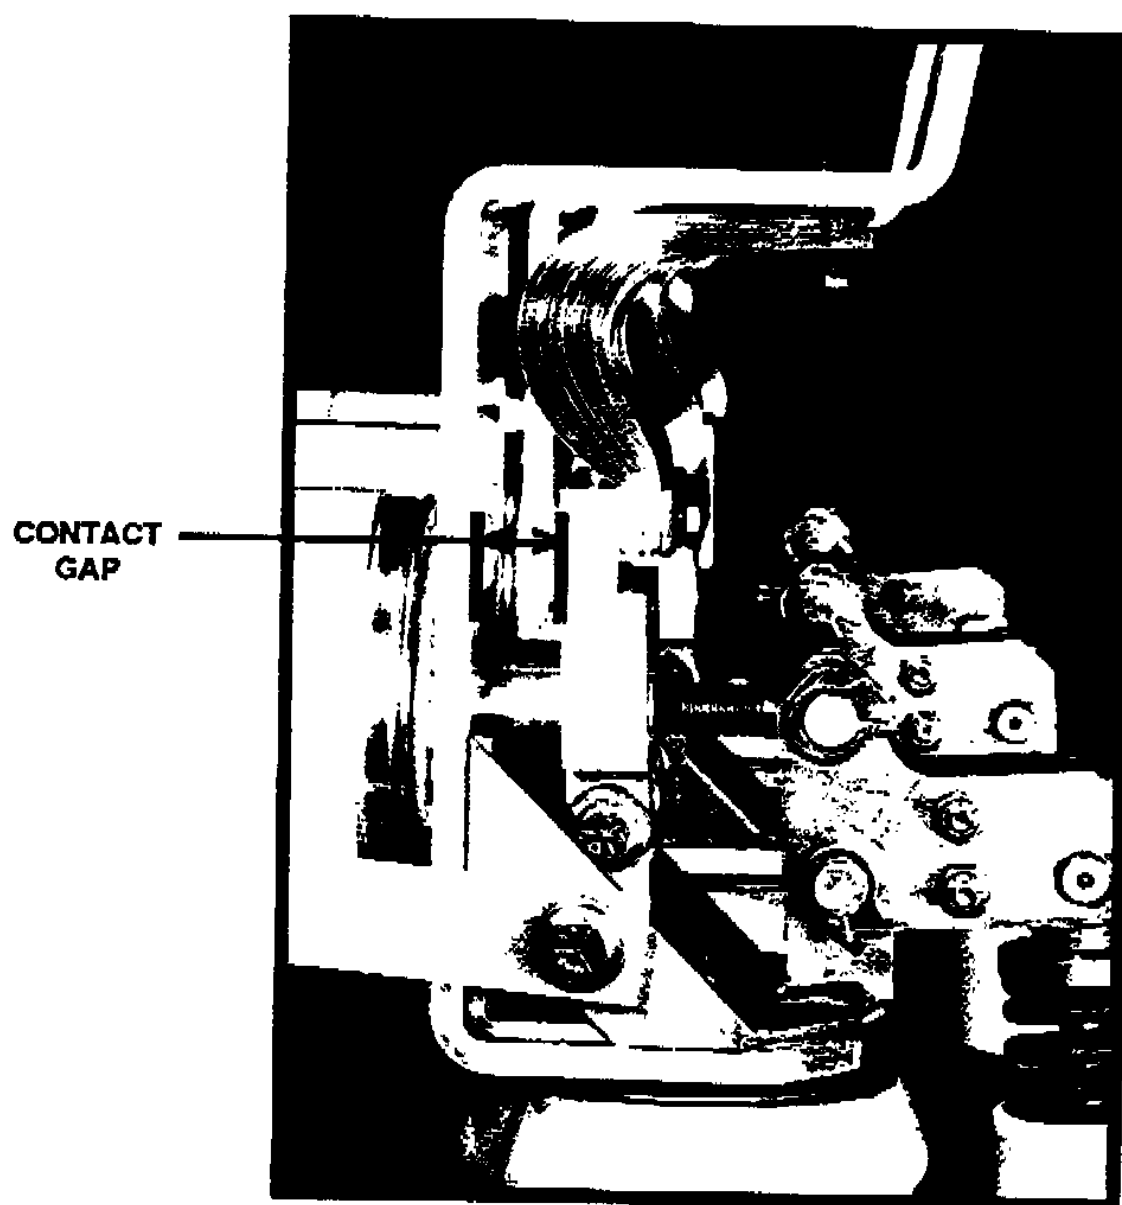

Figure 3 - Contact Gap
3. Contact Gap (See Figure 3). The contact gap is set at the factory at the nominal dimension of .40. This value will normally increase as the contacts erode. A check of the contact gap checks that the breaker does open fully and that the gap is sufficient to withstand the applied voltage. The measurement is made as follows for the three poles: